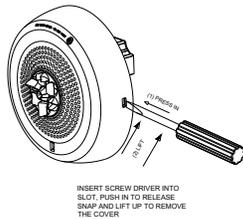

Figure 6: Grille Removal
8. **To remove the cover**, insert a small flat-bladed screwdriver into the bottom opening 1/2" as shown in Figure 6. Then pry off beauty cover with the screwdriver.